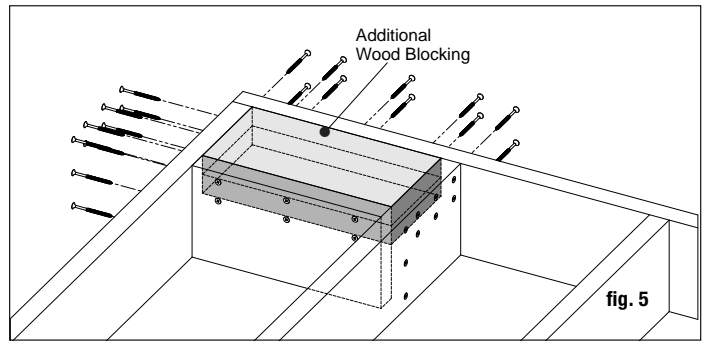

fig. 5
Step 3 Installing Posts: Install posts by attaching the aluminum base to the surface of the deck. Position the post so the fastener will go into the floor joist, and make sure the decking is firmly attached to the joist at the location of the posts. Proper structural blocking/ framing under the decking material is required when attaching the post to a wood frame deck because decking alone is not approved as structural framing (fig. 5).